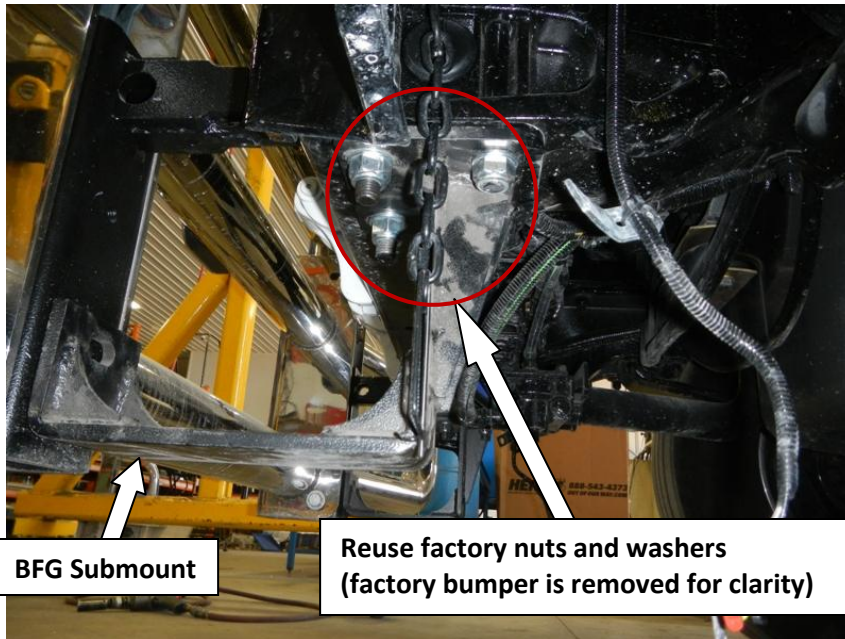

Figure 7 – BFG submount installation (Driver side)
5. Install driver's side BFG submount (Figure 7)